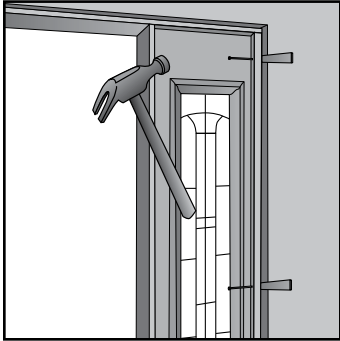

Fig. 25
- C. SYSTEM 5 - Fasten by partially driving one 3" finish nail through both the top and bottom shim of the sidelight jamb legs (**Fig. 25**).